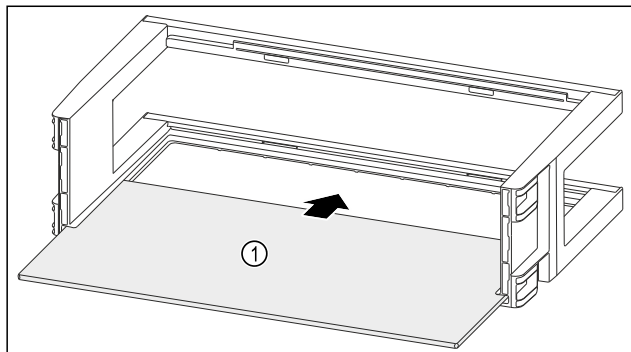

Fig. 155
- Push the shelf Fig. 155 (1) into the side recesses.